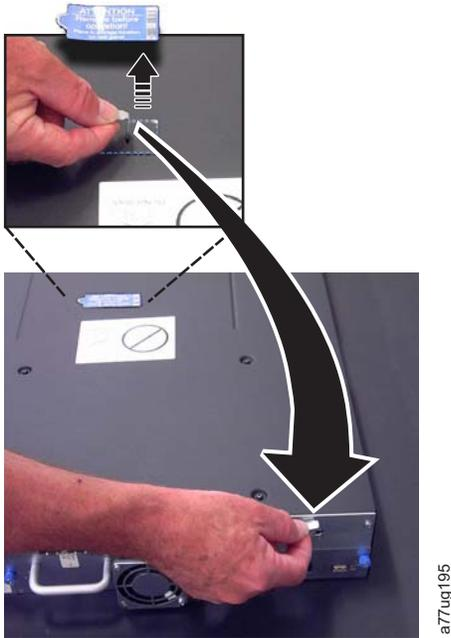

Figure 10-17. Removing the shipping label and lock from the top of the library and storing on the rear panel
4. Remove the shipping lock from the top of the replacement library enclosure (see Figure 10-17 on page 10-17).